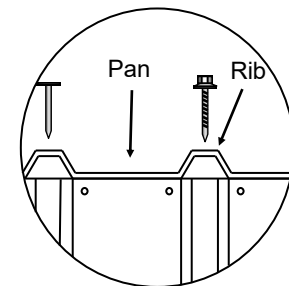

fig.2
- Using 4 x 50mm Clouts, pre-drill and nail the Roof Sheets to the Top Plates through the ribs, at each corner, ensuring ribs on the Roof Sheets line up with ribs on the Wall Sheets (fig.2).
- Screw the roof sheets to the front & back Top Plates, using 1 x Roofing Screw per rib. (fig.2).